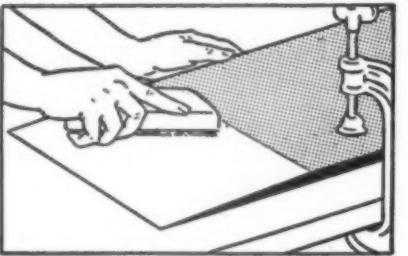

Figure 7
- Roughen belt fibres with scratcher. (Card clothing approximately No. 26 or 28) (Fig. 7).